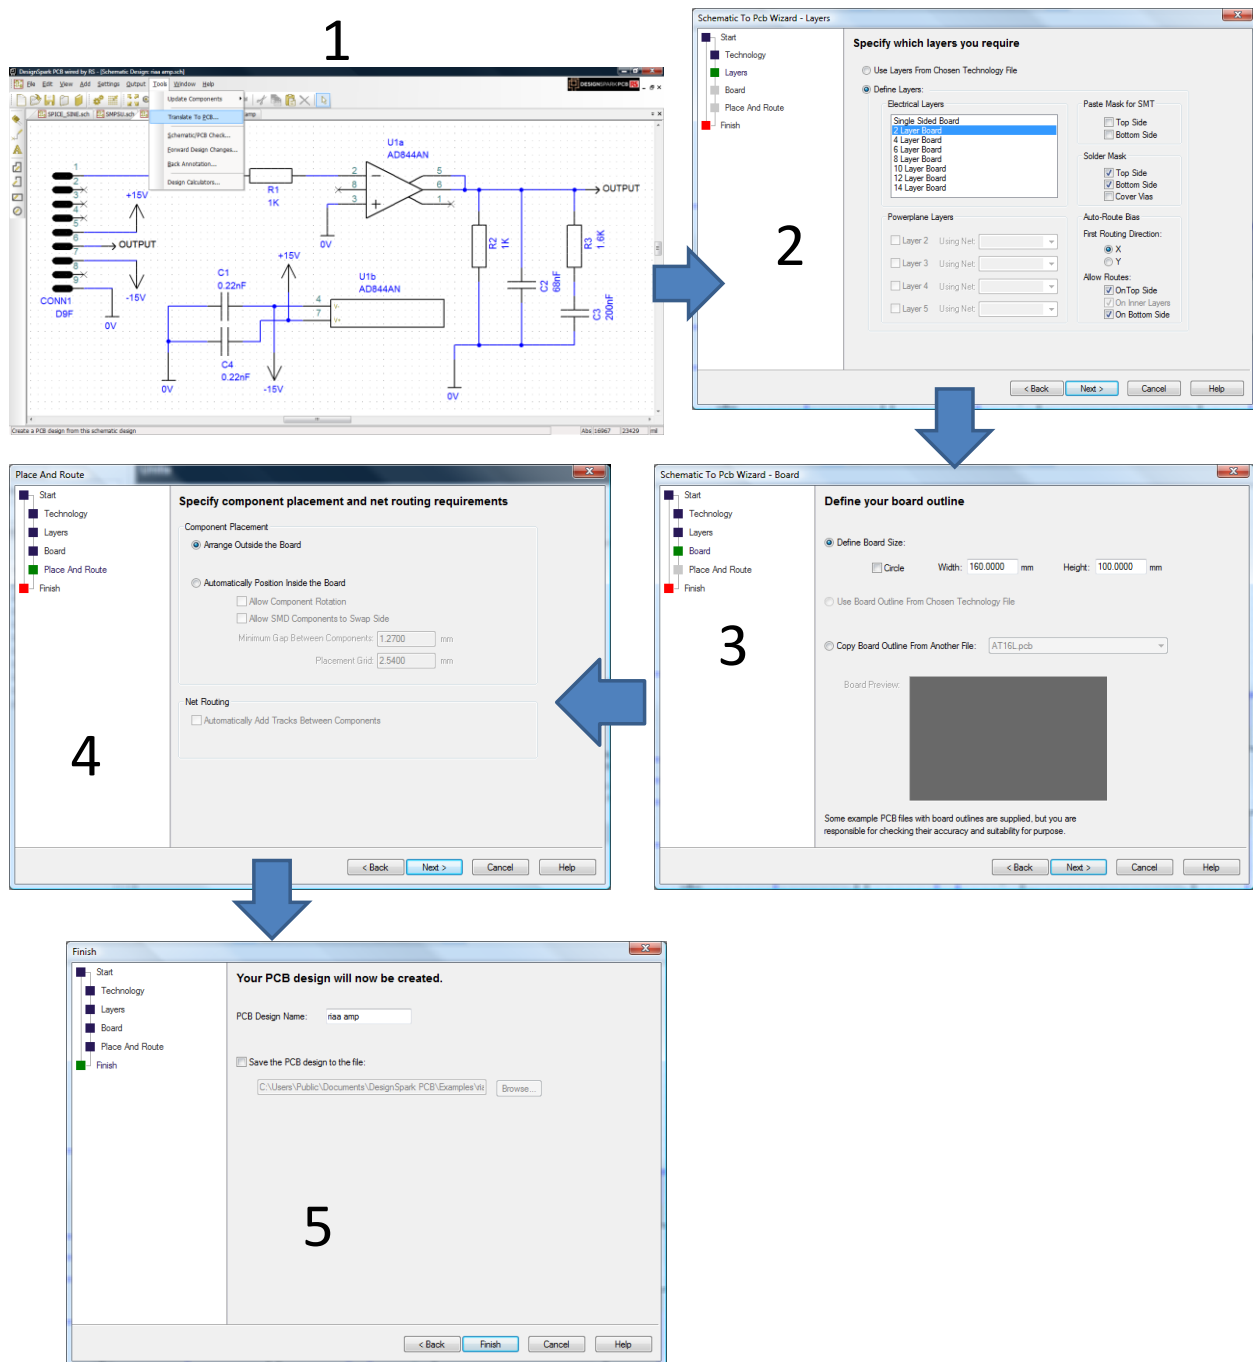

Figure 6-11: Generating PCB Procedure
2. As shown in Figure 6-11 (image 1), select “Tools” and “Translate to PCB” which will open the “Schematic To PCB Wizard”.